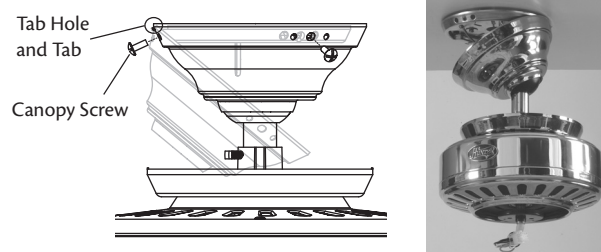

Figure 14 - Installing the canopy
2. Hook the tab hole over the tab on the ceiling plate as shown in Figure 14.
3. Raise the canopy, be sure the holes in the canopy and the ceiling plate are aligned, and loosely assemble the canopy screws one at a time. When all three screws are assembled, securely tighten all three canopy screws. Refer to Figure 14.